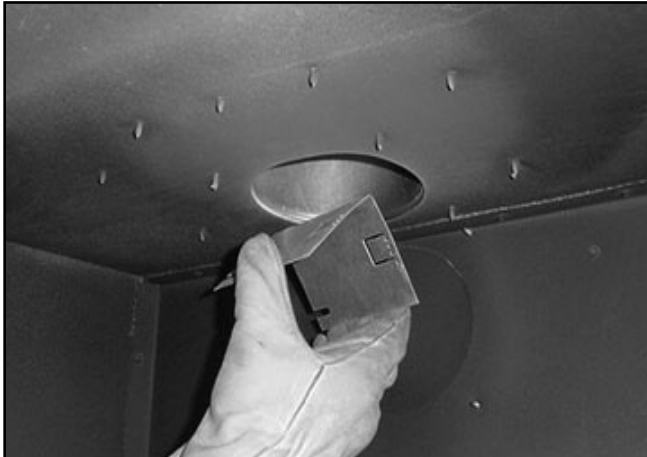

Figure 7.22 Placing the Baffle
- Squeeze the open end of the bent baffle with one hand. Insert the baffle bent side up into the inner flue so that the bottom of the baffle is above the bead on the inside of the collar. See Figure 7.22.